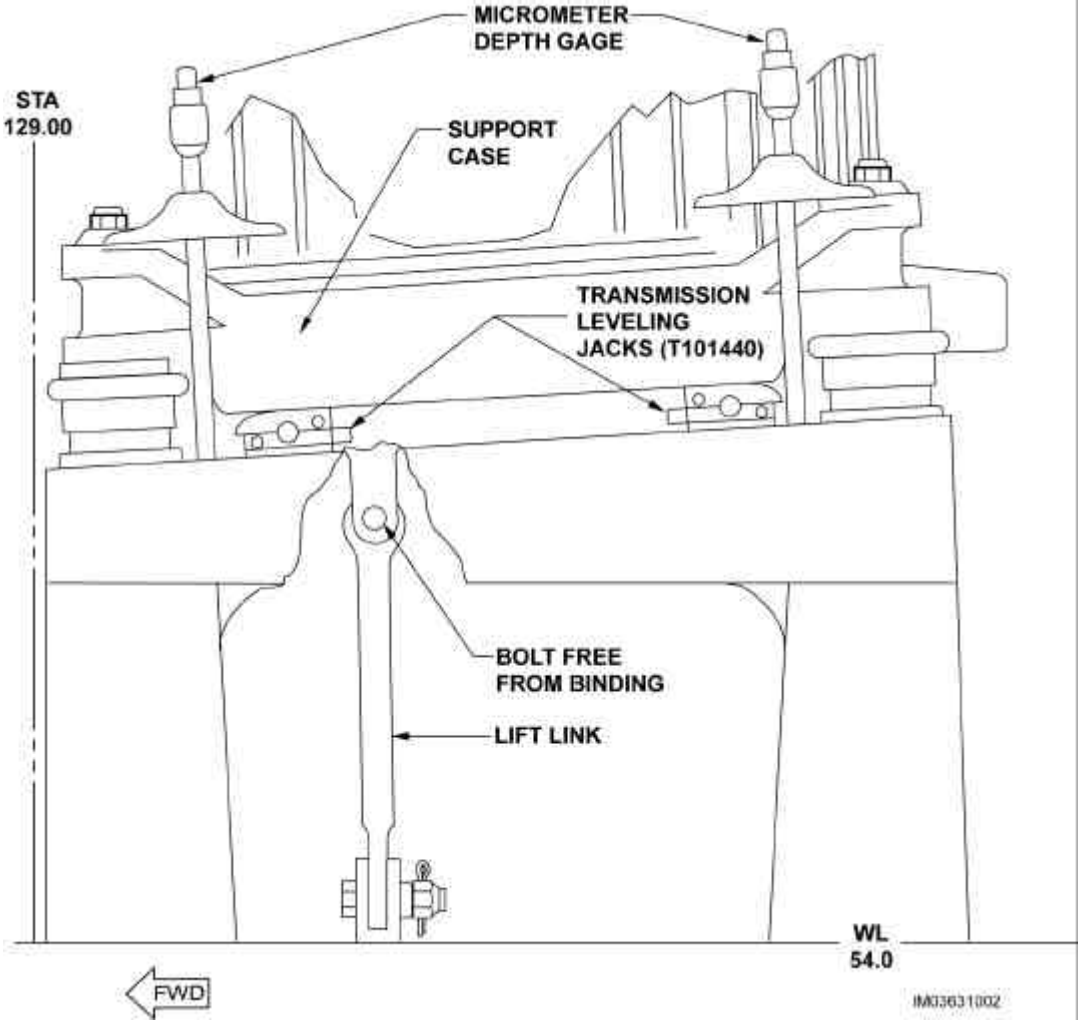

Figure 2. Pylon Levelling and Alignment.
9. Using maintenance hoist (T101581) or equivalent and clevis assembly 204-011-178-001 attached to top of main rotor mast, raise transmission to point where upper lift link bolt (10) may be turned freely by hand. Replace bolt if binding occurs due to corrosion or galling. Apply anti-seize compound (C-452) to bore and OD of bushing. Check lower bolt for same conditions.
10. Install four transmission-levelling jacks (T101440) (two at each side) between transmission support case and top of pylon support structure. (Figure 2) Use shim plates if necessary to obtain proper jack height.
12. Carefully adjust four levelling jacks equally so that transmission is held at height where upper lift link bolt turns freely. (Figure 2.)
13. Determine that transmission support points are all same height above pylon support structure by measuring at each pylon mount with a depth micrometer. (Figure 2.)